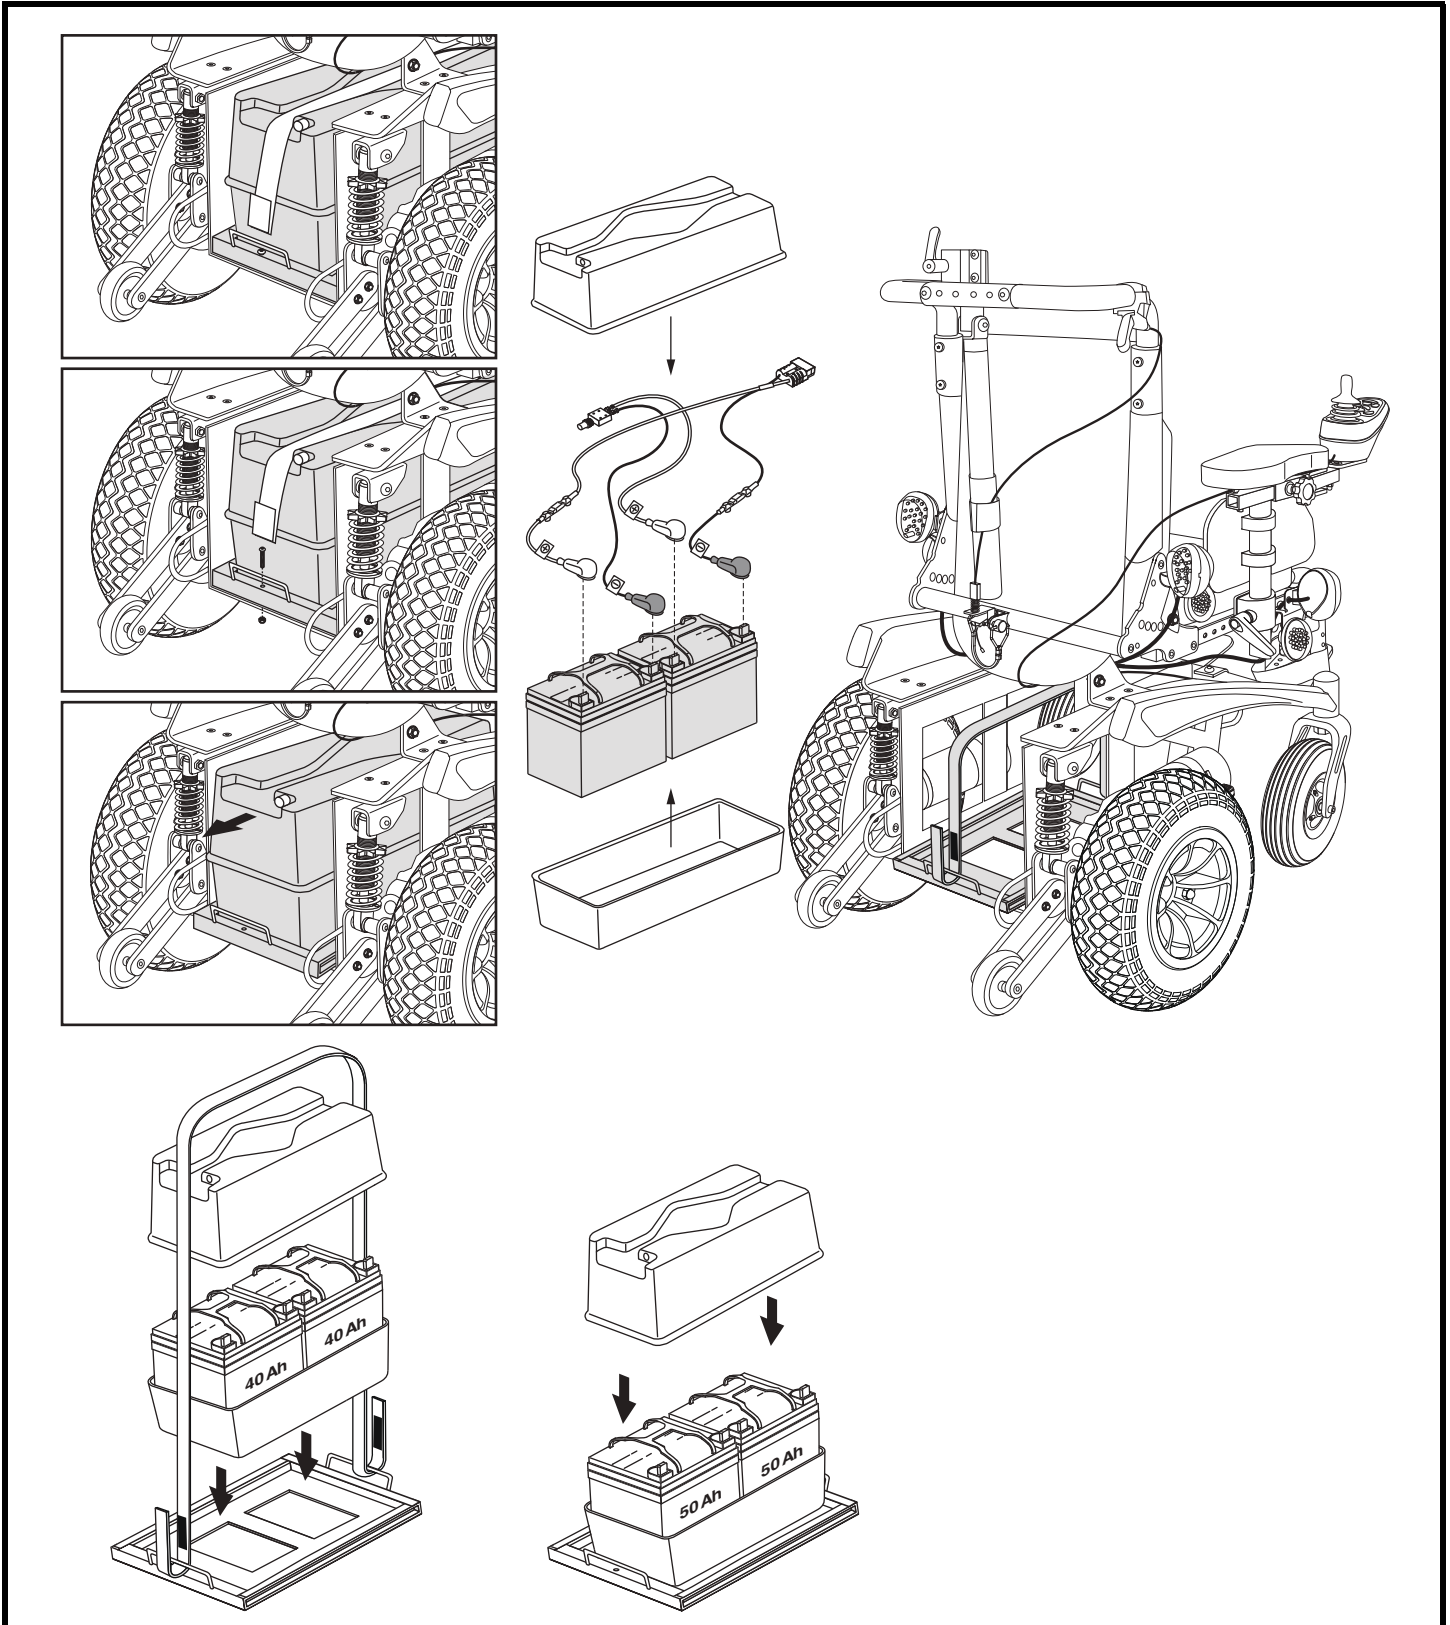

Figure 29. Battery Replacement
A battery wiring diagram is printed on a decal located on the battery door. **See figure 29.** Refer to the specifications table for correct battery specifications.
4. Slide the battery tray back. **See figure 29.**
8. Install the new batteries into the battery box. **See figure 29.**
11. Slide the battery tray back into place and reinstall the battery securement hardware. **See figure 29.**